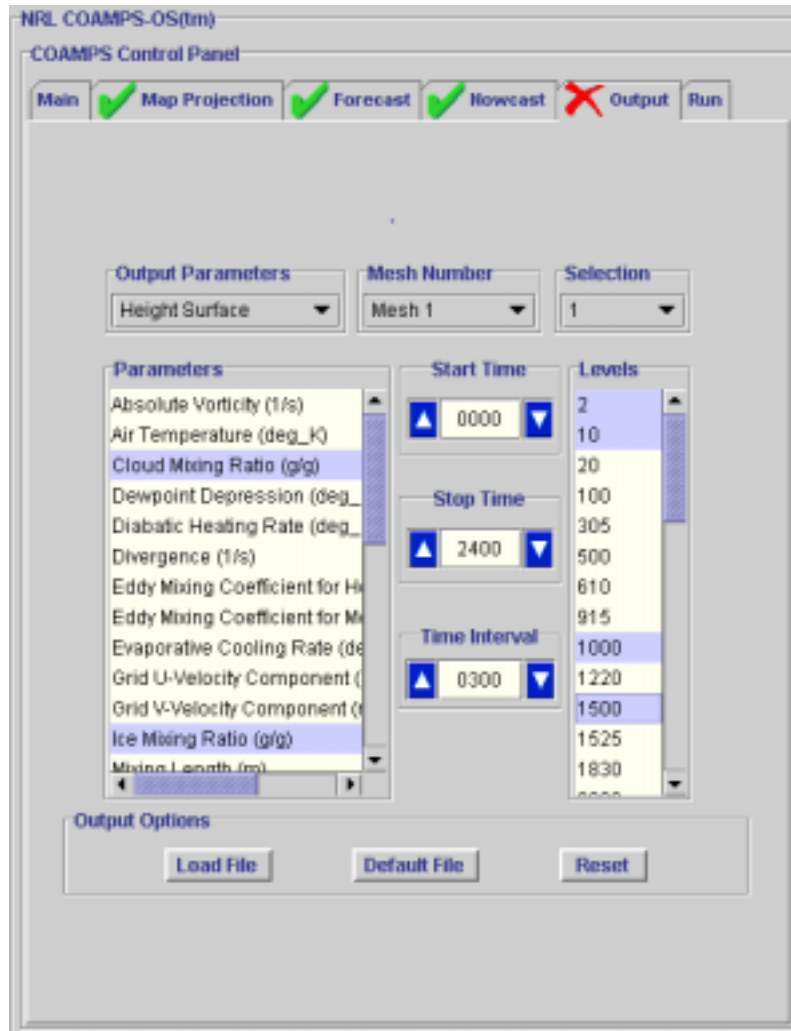

Figure 26. Output Control Panel with Height Parameters and Heights selected.
3. Select the **Levels** for the selected parameters. Click on each desired height. Toggle a selected level off by clicking on the level again. After completing the selections, the screen should resemble Figure 26.